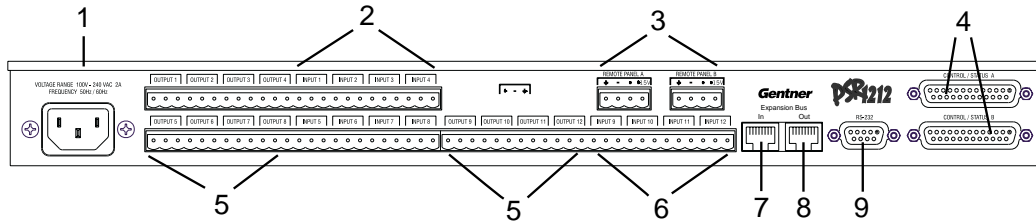

Figure 2. Rear Panel
**1. Power** This power module (see Figures 2 and 3) accommodates power ranging from 100–240VAC, 50/60Hz. The module uses an IEC-type connector. No switching is required.
**2. Inputs 1-8** This bank of Phoenix block connectors (see Figures 2 and 4) is for connection of eight mic-level or line-level (selectable) inputs. This bank of connectors is typically used for connection of microphones, but can be configured for use with VCRs, CD players, etc. These inputs can be mixed in any gated or non-gated combination and routed to any of the 12 outputs. Default input level is -55dBu. For more information about input adjustments, see page 36. For electrical specifications, see Appendix A: Specifications.
**3. RS485 Remote Panel A/B Port** These four-pin Phoenix connector ports (see Figures 2 and 5) allow you to control the PSR1212 with a Gentner Control Panel (future product release; see page 86).
**4. Control/Status Ports A and B** These two female DB25 connectors (see Figures 2 and 6) are for connecting control devices to the PSR1212. The control devices have access to the command set for the PSR1212 and can be used for common functions such as volume control, muting, preset change, room combining, etc. Devices can be connected to either port.
**5. Outputs 1-12** This bank of three-pin Phoenix™ connectors (see Figures 2, 7, and 8) is for connection of eight line-level balanced outputs with three-pin Phoenix connectors. These outputs are typically used for connection to
**6. Inputs 9-12** These Phoenix connectors (see Figures 2 and 9) are for connection of up to four line-level inputs. These are typically used for connection of VCRs, tape players, CD players, and other audio sources. They can be routed to any output or output combination. Nominal level is 0dBu.
**7. Expansion Bus In** This RJ45 connector (see Figures 2 and 10) is part of the PSR1212 RS485 LAN. The first PSR1212 unit in the local Expansion Bus network must have the EXPANSION BUS IN connector terminated with an Expansion Bus terminator. The first PSR1212's EXPANSION BUS OUT connector is attached to the EXPANSION BUS IN connector on the next PSR1212, forming a daisy-chain network.
**8. Expansion Bus Out** This RJ45 connector (see Figures 2 and 10) is part of the PSR1212 RS485 LAN. The last PSR1212 in the local Expansion Bus network must have the EXPANSION BUS OUT connector terminated with an Expansion Bus terminator. The first PSR1212's EXPANSION BUS OUT connector is attached to the EXPANSION BUS IN connector on the next PSR1212, forming a daisy-chain network.
**9. RS232** This female DB9 serial port (see Figures 2 and 11) is for interconnection between the PSR1212 and a PC, modem, or other custom remote controller. For serial protocol, see Appendix B: Connector Pinouts.
Begin by placing the PSR1212s in their proper locations. The Expansion Bus In and Expansion Bus Out connectors (see Figure 2) on the back panels are designed for setting up your Expansion Bus network. Expansion Bus connections between units are made in a daisy-chain fashion using category five twisted-pair cable.